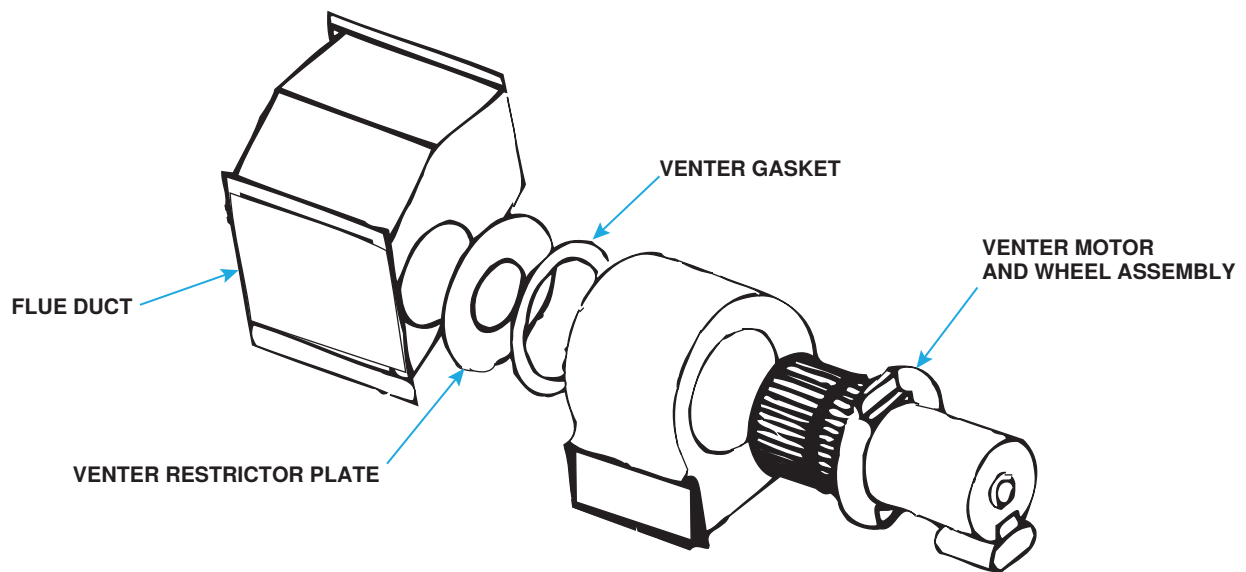

Figure 40. Venter Restrictor Plate and Gasket Location
- a. Align replacement venter restrictor plate, venter gasket, and venter housing as shown in Figure 40 and secure plate, gasket, and housing to flue duct assembly using three screws removed in step 2b.
- b. Install venter motor and wheel assembly in venter housing as shown in Figure 40 and secure assembly to housing using hardware removed in step 2a.